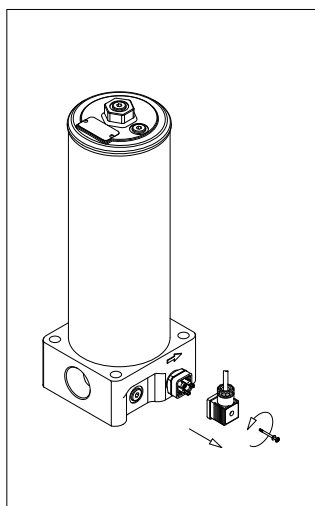

fig. 21
- (Fig. 21) Remove the connector of the differential indicator by unfastening the central screw (only for electrical indicators)